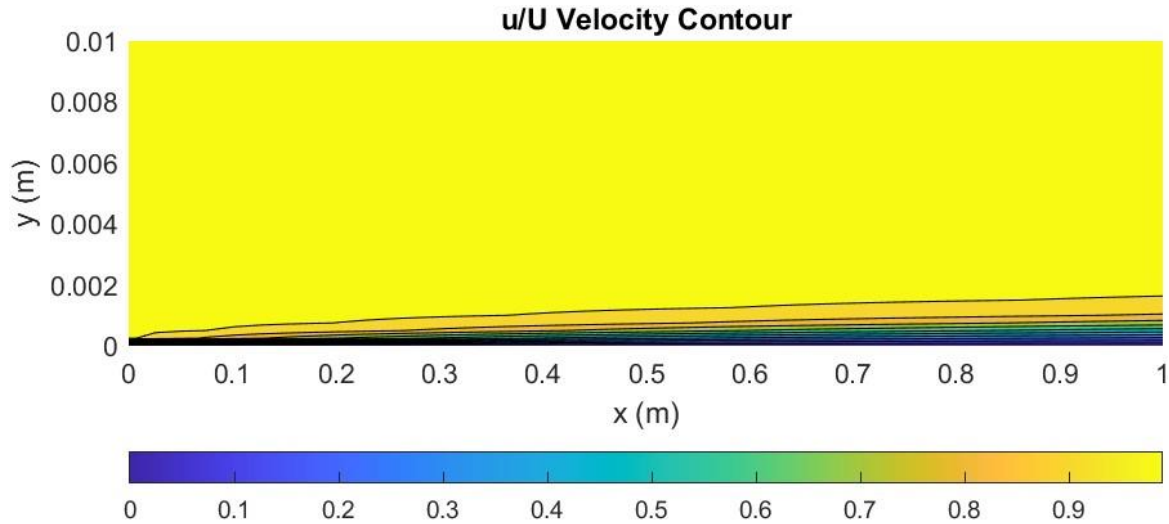

Fig:5 – Boundary Layer Profile over airfoil at  $Ma = 0.8$
- Fig 5 shows the boundary layer profile over the airfoil. The contour represents the velocity magnitude wrt to free stream velocity.